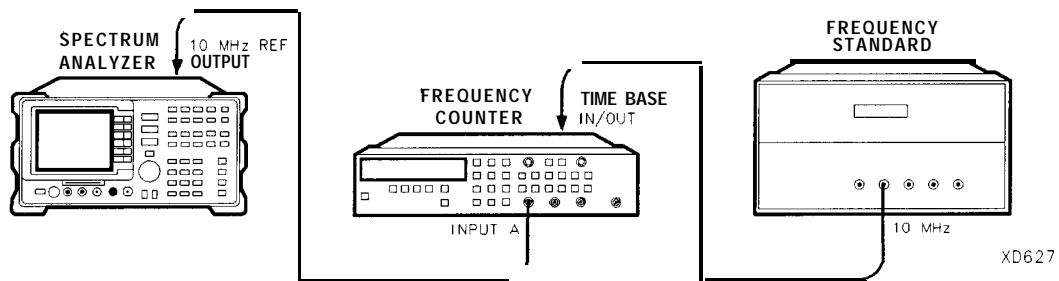

Figure 2-2. 10 MHz Precision Frequency Reference Accuracy **Test** Setup
1. Allow the spectrum analyzer to sit with the power off for at least 60 minutes before proceeding. Connect the equipment as shown in Figure 2-2.